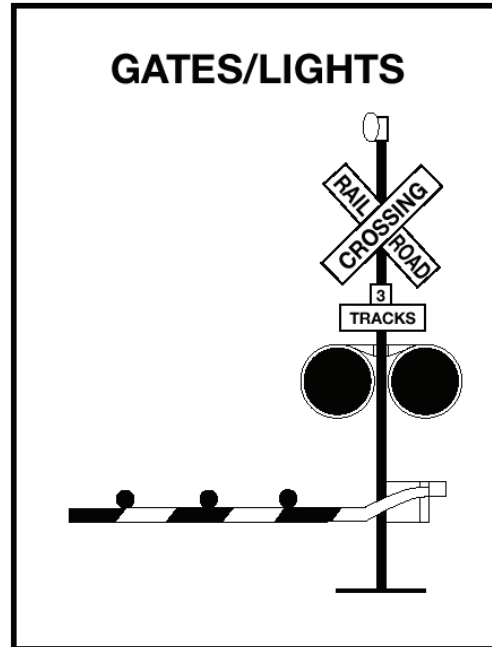

Figure 10.8
**Flashing Red Light Signals.** At many highway-rail grade crossings, the crossbuck sign has flashing red lights and bells. When the lights begin to flash, stop! A train is approaching. You are required to yield the right-of-way to the train. If there is more than one track, make sure all tracks are clear before crossing. See Figure 10.8.
Proceed when it is safe. If the gate stays down after the train passes, do not drive around the gate. Instead, call your dispatcher. See Figure 10.8.